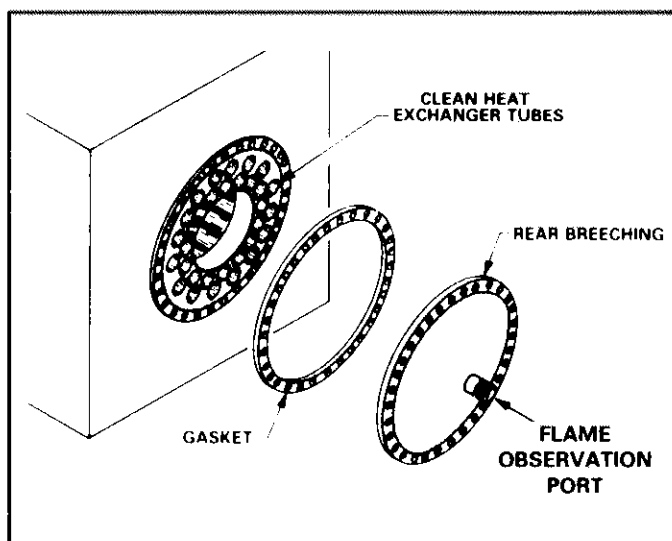

FIGURE 20
- 2 - Unscrew cap screws and remove heat exchanger breeching. See Figure 20.